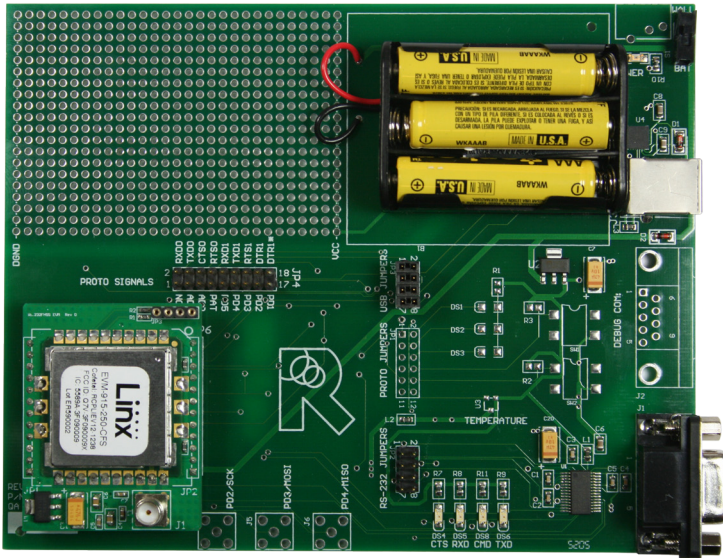

Figure 5: 250 Series Transceiver Evaluation Module on the Development Board
1. Insert an EVM module into the evaluation boards, observing the correct orientation. The antenna connector should be closest to the edge of the development board (Figure 5). Make sure it is seated fully and correctly.